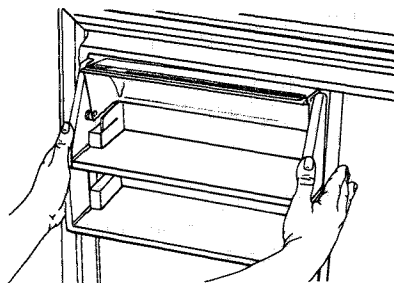

Figure 13
- e. To install adjustable dairy and second serving shelf system, slide system into top groove area until tabs lock into place. See Figure 13.